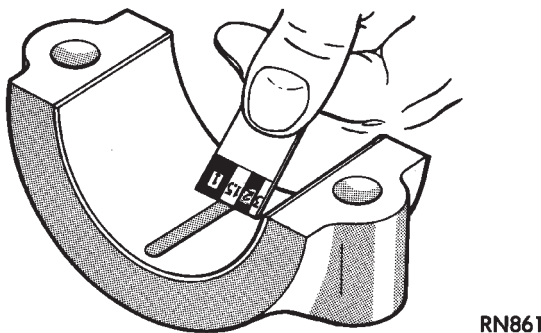

Fig. 2 Clearance Measurement
(2) Remove the bearing cap and compare the width of the flattened Plastigage with the scale provided on the package (Fig. 2). Plastigage generally comes in two scales (one scale is in inches and the other is a metric scale). Locate the band closest to the same width. This band shows the amount of clearance. Differences in readings between the ends indicate the amount of taper present. Record all readings taken. Refer to Engine Specifications.
(3) The crankshaft must be rotated until the connecting rod to be checked starts moving toward the top of the engine. Only then should the rod cap, with Plastigage in place, be assembled. Tighten the rod cap nut to 61 N·m (45 ft. lbs.) torque. **DO NOT rotate the crankshaft or the Plastigage may be smeared, giving inaccurate results.**
(4) Remove the bearing cap and compare the width of the flattened Plastigage with the scale provided on the package (Fig. 2). Plastigage generally comes in two scales (one scale is in inches and the other is a metric scale). Locate the band closest to the same width. This band shows the amount of clearance. Differences in readings between the ends indicate the amount of taper present. Record all readings taken. Refer to Engine Specifications.
(5) Plastigage is available in a variety of clearance ranges. The 0.025-0.076 mm (0.001-0.003 in.) range is usually the most appropriate for checking engine bearing clearances.